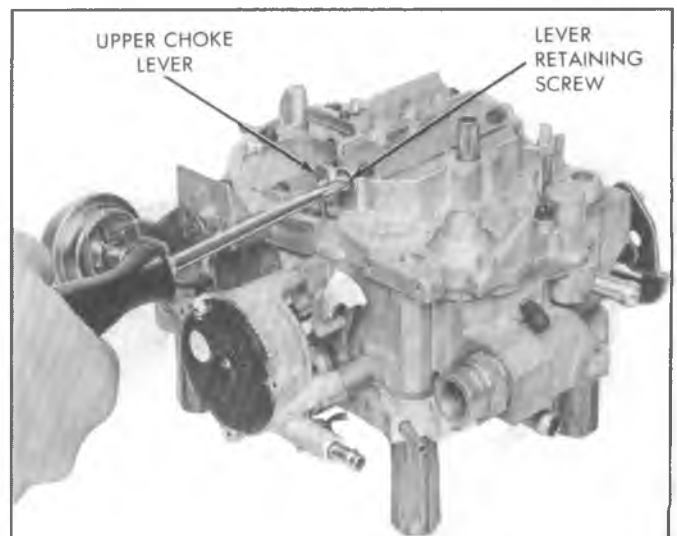

Fig. 6C4-8--Removing Upper Choke Lever
1. Remove upper choke lever from the end of choke shaft by removing retaining screw (Fig. 6C4-8). Then rotate upper choke lever to remove choke rod from slot in lever.
3. Remove secondary metering rods by removing the small screw in the top of the metering rod hanger. Lift upward on metering rod hanger until the secondary metering rods are completely out of the air horn. Metering rods may be disassembled from the hanger by rotating ends out of the holes in the end of the hanger. (Fig. 6C4-9).